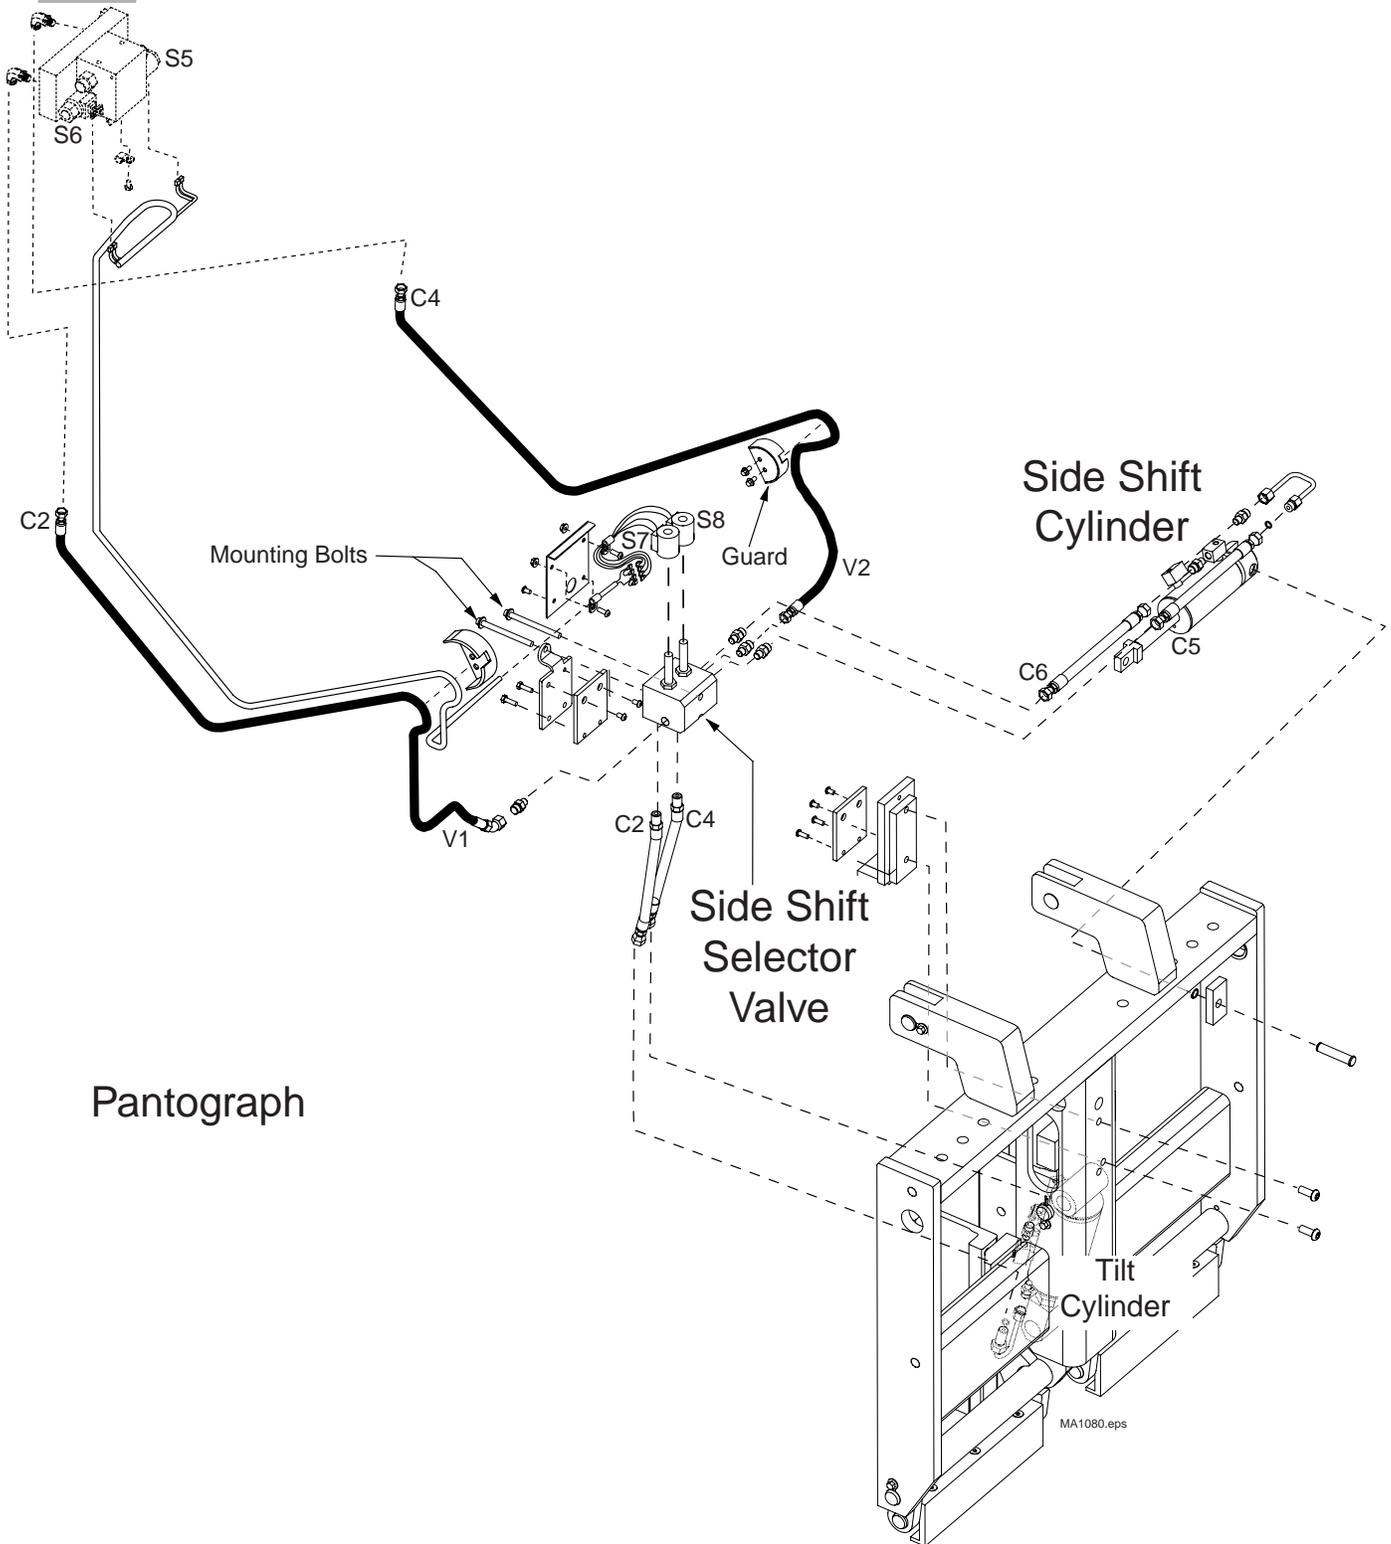

Figure 98A
* Line up mounting holes in selector valve with those in the mounting bracket. Install mounting bolts finger tight. See Figure 98A.